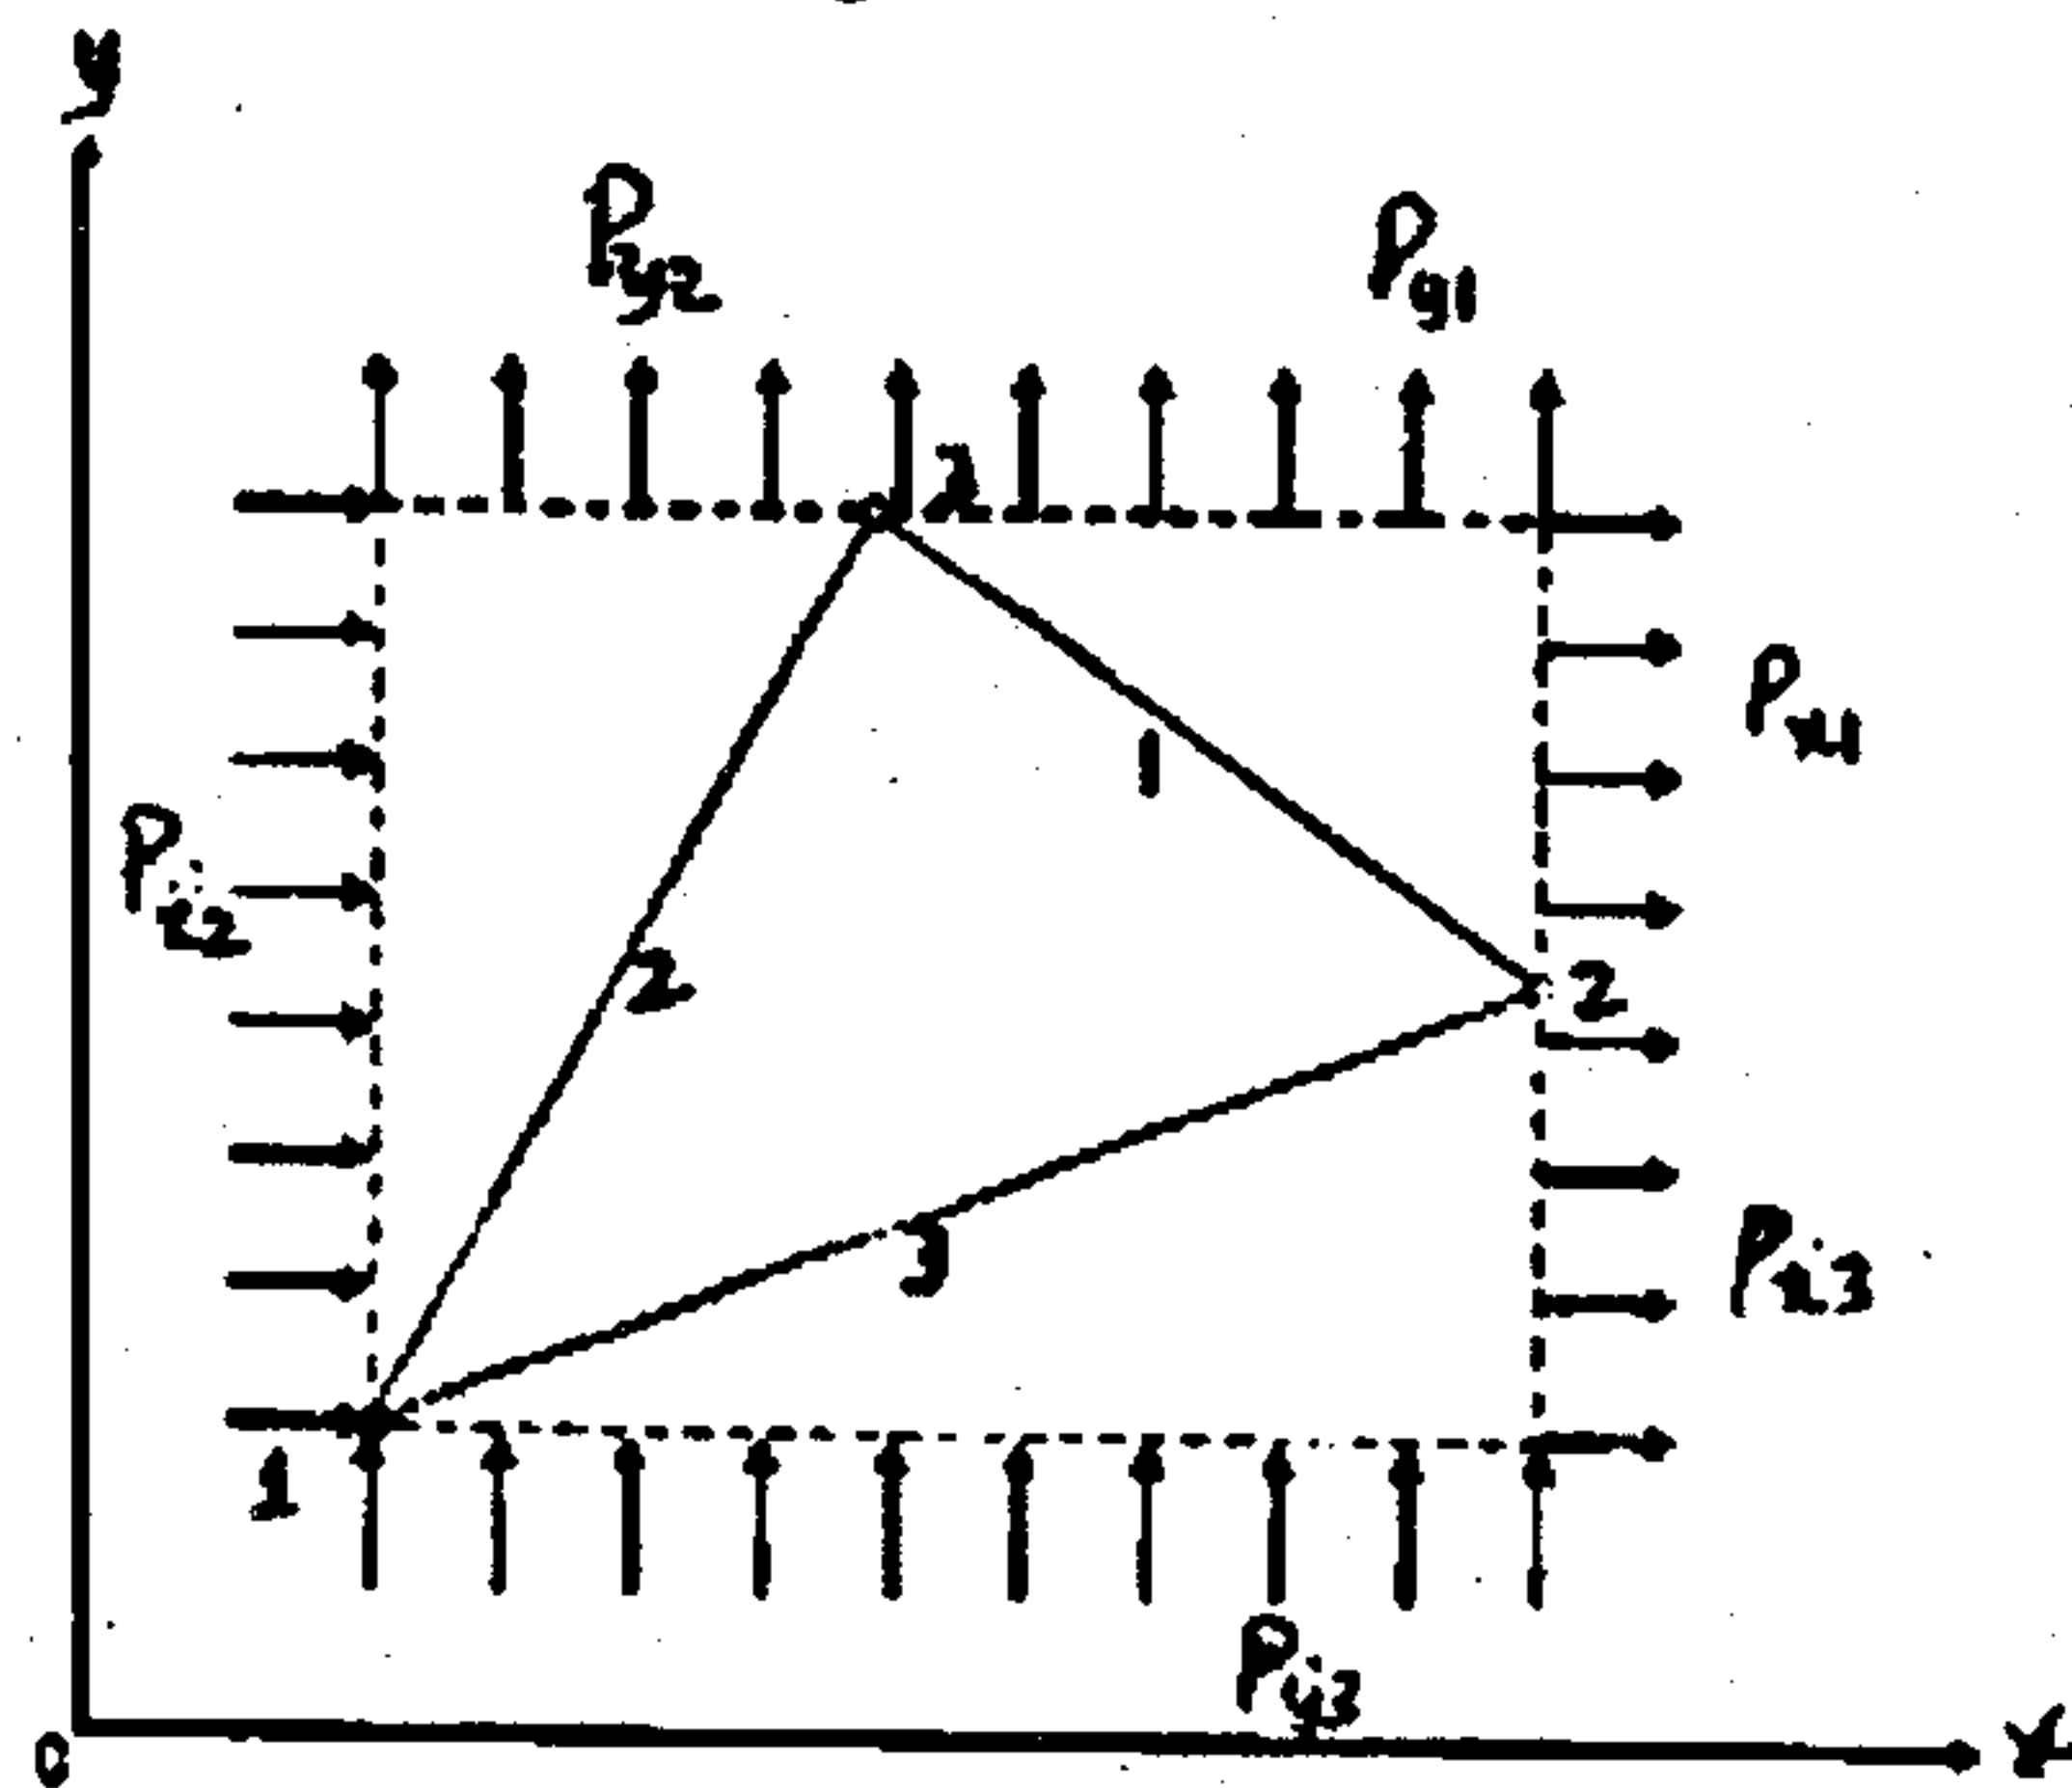

Fig. 2
- (b) (i) Derive the expression for nodal vector in a CST element subjected to pressures P_{x1}, P_{y1} on side 1, P_{x2}, P_{y2} on side 2 and P_{x3}, P_{y3} on side 3 as shown in Fig. 2. (10)